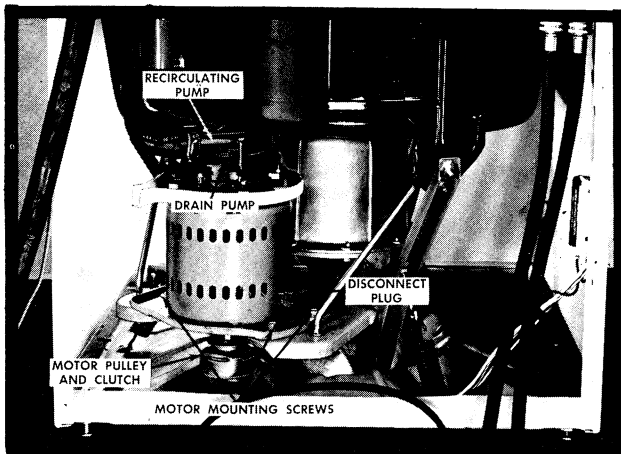

Figure 45
20 MOTOR —REPAIR — REPLACEMENT , *Figure 45.*
- Remove motor mounting screws, *Figure 45.*